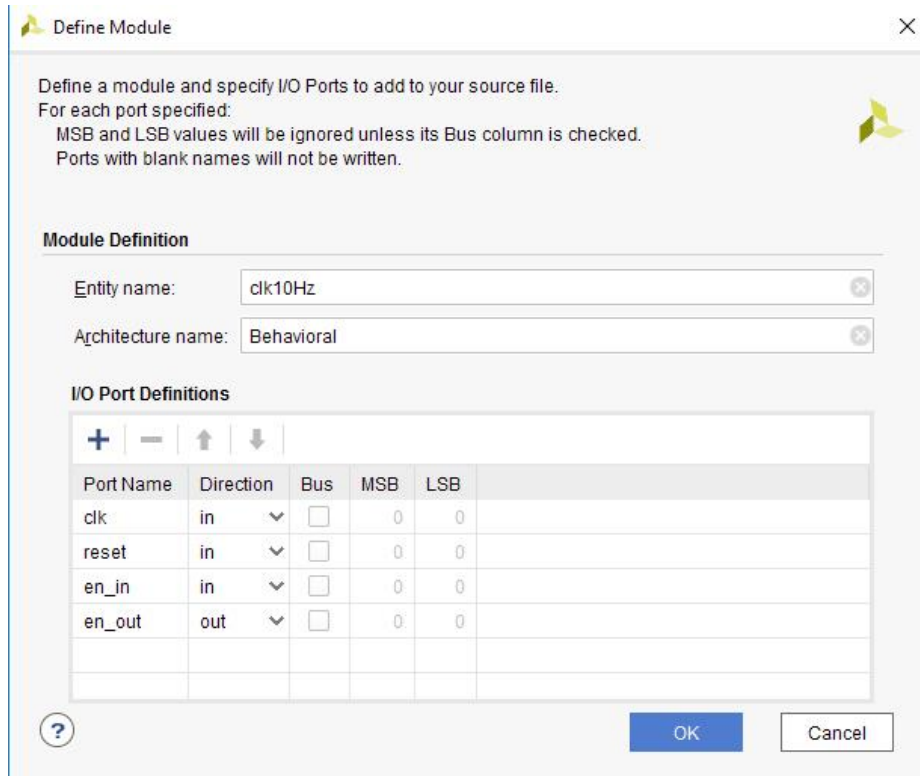

Figure 39
10. Declare the **clk10Hz** design ports by filling in the port information as shown in Figure 39.